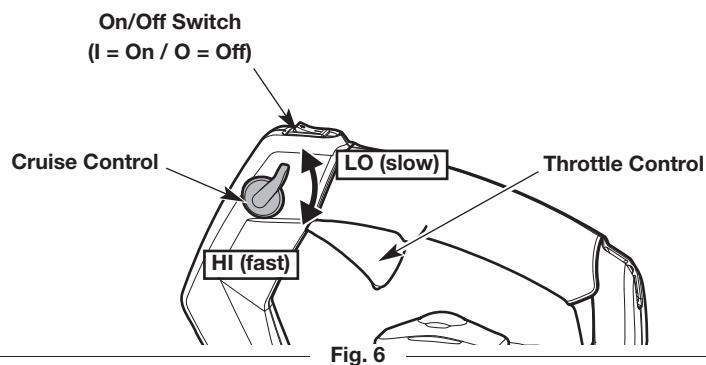

Fig. 6
NOTE: There is no need to turn the unit on. The On/Off switch is in the **On (I)** position at all times (Fig. 6).
2. Move the cruise control to the **LO (slow)** position (Fig. 6).
NOTE: If the unit stops during this time, squeeze and hold the throttle control or move the cruise control to the **HI (fast)** position (Fig. 6), then pull the starter rope in a controlled and steady motion until the unit starts.
7. Squeeze and hold the throttle control or move the cruise control to the **HI (fast)** position (Fig. 6). Allow the engine to warm up for 30 to 60 seconds. The unit may be used during this time.
2. Press and hold the On/Off switch in the **Off (O)** position until the engine comes to a complete stop (Fig. 6).
NOTE: Keep the cruise control in the LO (slow) position and DO NOT squeeze the throttle control (Fig. 6) until step 9.
NOTE: If the unit stops during this time, squeeze and hold the throttle control or move the cruise control to the **HI (fast)** position (Fig. 6), then run the electric start accessory in intervals no longer than 2 seconds each until the unit starts.
9. Squeeze and hold the throttle control or move the cruise control to the **HI (fast)** position (Fig. 6). Allow the engine to warm up for 30 to 60 seconds. The unit may be used during this time.
- Use the cruise control to make continuous operation easier (Fig. 6).